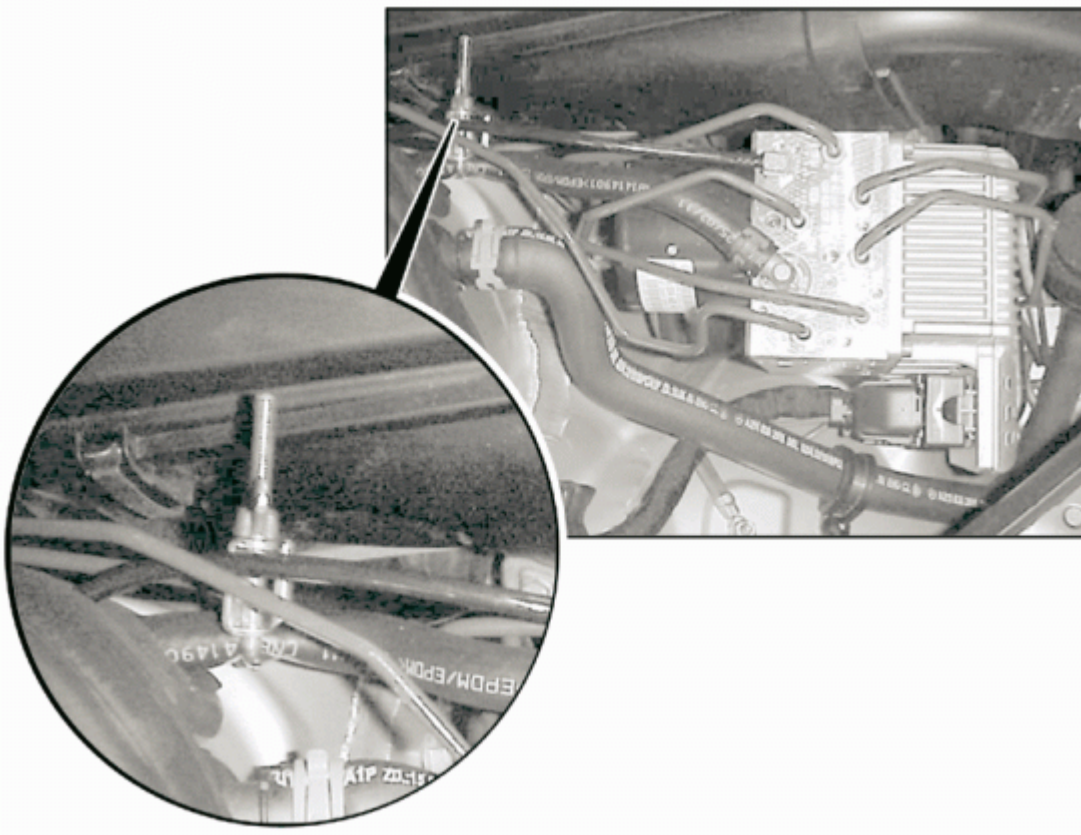

Figure 1
2. Install and tighten the hose clamp, part number 000 589 40 37 00, on the suction line approximately 15 cm (6 in) SBC hydraulic unit to minimize the loss of brake fluid (Figure 1).